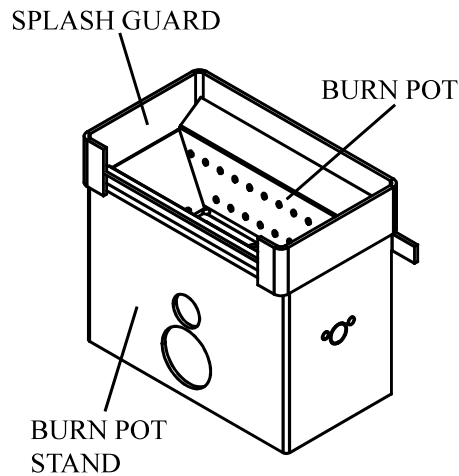

Figure 25. Burn pot stand assembly.
- d. Remove the burn pot, burn pot stand and splash guard (Figure 25) and clean them thoroughly. Lift the burn pot and splash guard to remove. Lift up on the burn pot stand and pull towards you to remove. Make sure there are no ashes remaining in the burn pot stand and that all the holes in the burn pot are clear. Failure to do so can be a fire hazard. Place all ashes into a metal container with a tight fitting lid.